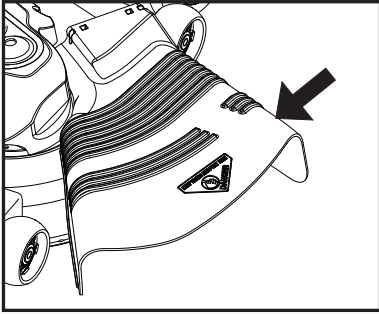

Fig. 10
**CAUTION:** Do not operate the mower without either the entire grass catcher, on mowers so equipped, or the deflector chute in place (See Fig. 10).